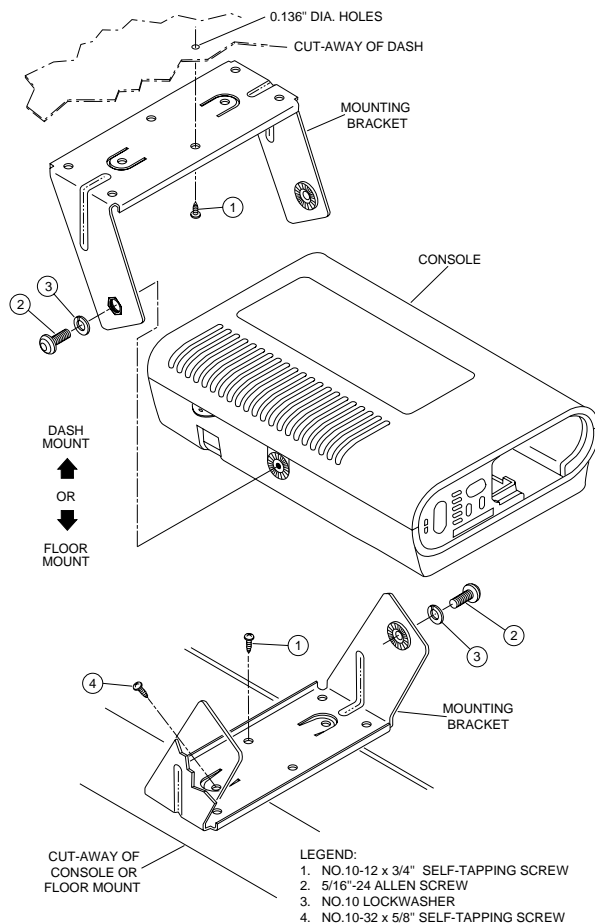

Figure 1. Console Installation Detail
Referring to Figure 1, install the console using the following procedure, or modify the procedure as necessary to conform to the vehicle type:
- a. Using the trunnion bracket as a template, drill the mounting holes, and mount the bracket with the hardware supplied. If the trunnion bracket is to be mounted on the floor or vehicle console, bend the tabs on the bracket to conform to the shape of the floor or vehicle console (see Figure 1).